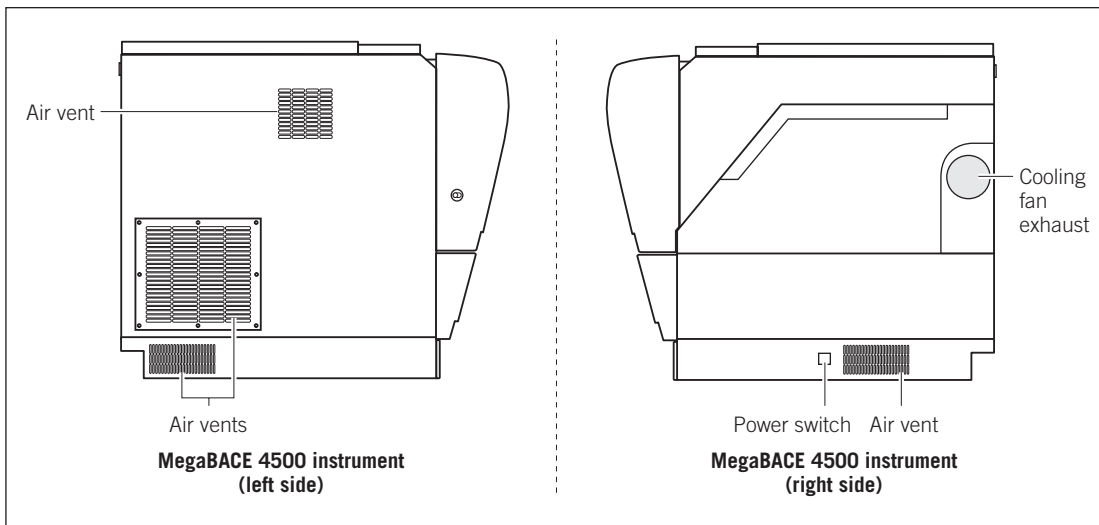

Figure 3-1. Make sure the airflow openings on the MegaBACE 4500 instrument are free of obstructions.
- **Instrument cooling**—Nothing is blocking free air access to the air vents on the sides and top of the MegaBACE instrument (figure 3-1).
2. Turn on the power switch on the right side of the instrument (figure 3-1). The instrument starts up and—